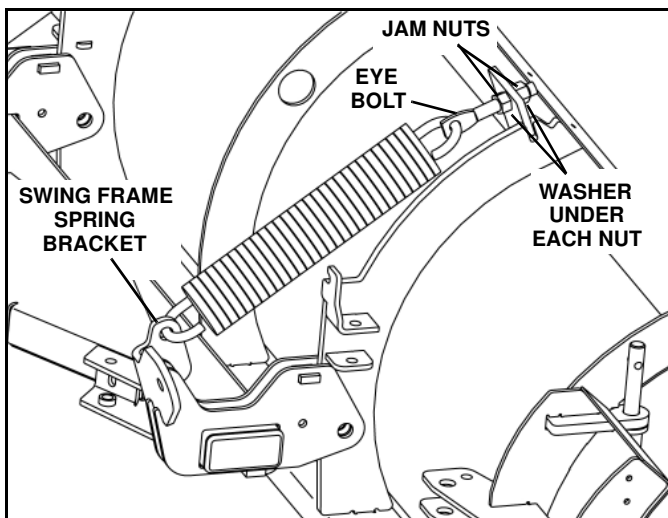

Figure 1-8
- c. **26R SERIES BLADE:** Remove the springs from the power pack carton. Hook springs onto swing frame thru the inside hole of the spring bracket. (See Figure 1-8).
- d. Install a nut and washer on the eye bolt until nut is fully seated and hook the bolt onto the free end of the spring. Insert the eyebolt into the hole in the spring bracket on each side of the blade. Loosely install a second washer and nut on the eye bolt. (See Figure 1-8).